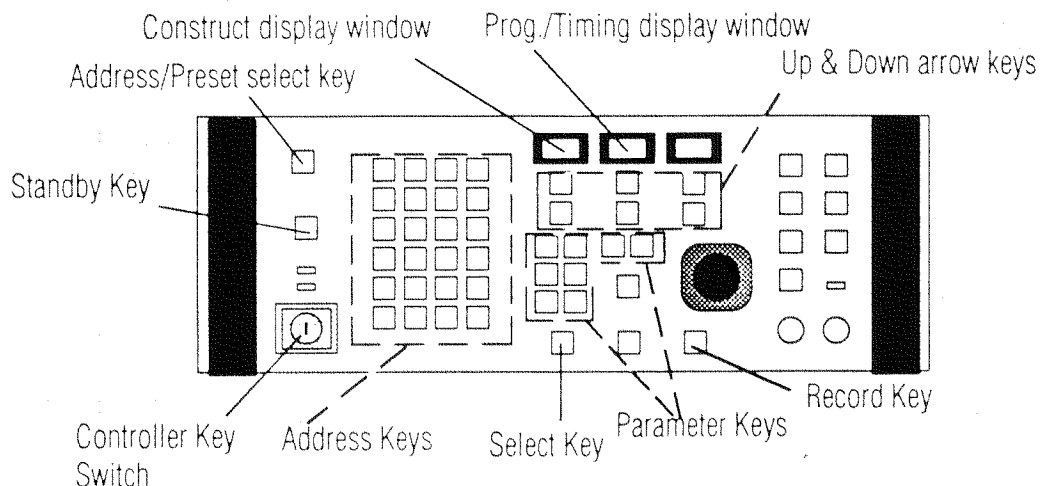

Figure 4.3 The Emulator Controller
- Turn on the Controller by turning the controller key clockwise. (See Fig. 4.3)
- You will now program a Page at Intensity level 9'9, in Memory 0'1, on page 0'1 using the **Four Step Method** (1. Press Select, 2. Select the Address, 3. Set the Parameters, 4. Press Record). If your controller is not at Intensity level 9'9, in Memory 0'1, on page 0'1, use the up/down arrow keys below each display window to go to this setting. (See Fig. 4.3)
Press the Select key. (See Fig. 4.3) The LED above the Select key will flash indicating that the controller is now in C.T.P. (Construct, Program/Timing, Page) mode. In C.T.P. mode you can adjust and record all of the parameters (settings) for an Address. The intensity and memory indicators will go blank except for a decimal point at the bottom of each display window. The Page display window will display the number of the page the controller is on (0.1).